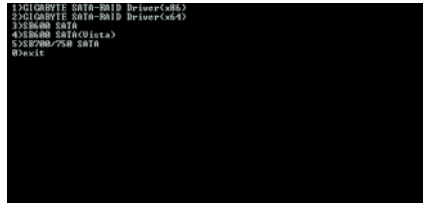
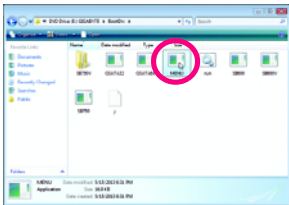

Figure 2
Figure 3
Step 2: When the controller menu (Figure 2) appears, remove the startup disk and insert the blank formatted disk. Select the controller driver by pressing the corresponding letter from the menu. For example, from the menu in Figure 2, to install Windows to your RAID/AHCI hard drives, select **(5) SB700/750 SATA** for the AMD SB700 SATA controller. Your system will then automatically zip and transfer this driver file to the floppy disk. Press <0> to exit when finished.
Use an alternative system and insert the motherboard driver disk. From your optical drive folder, double click the **MENU.exe** file in the **BootDrv** folder (Figure 3). A command prompt window will open similar to that in Figure 2.